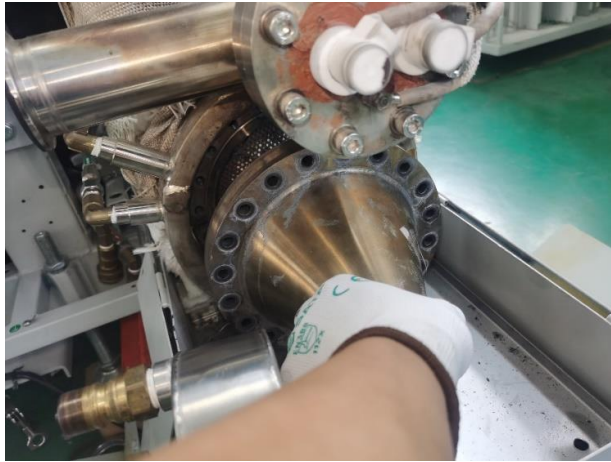

Fig 9
9. Remove the reactor flange (See Fig 9)